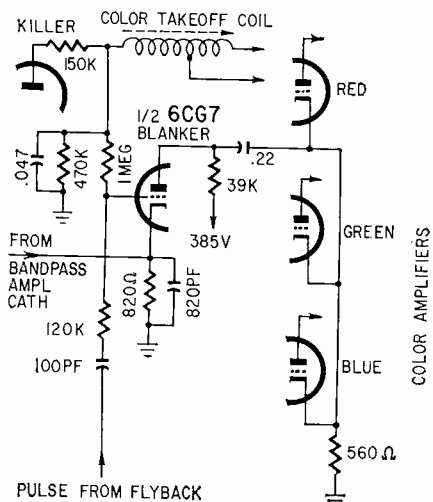

Fig. 9—Blanking amplifier—conventional vertical and horizontal retrace blanking, plus amplifier stage.
**9. The blanking tube** (Fig. 9). Because there are so many signals going in so many directions around here, we don't want any trouble with retrace of either kind. So, we add the blanking amplifier stage, Fig. 9. This is nothing but amplified retrace blanking. Same circuit used in uncounted jillions of black-and-white sets, except that we are using a tube to be sure that the picture tube stays cut off during horizontal and vertical retrace times.